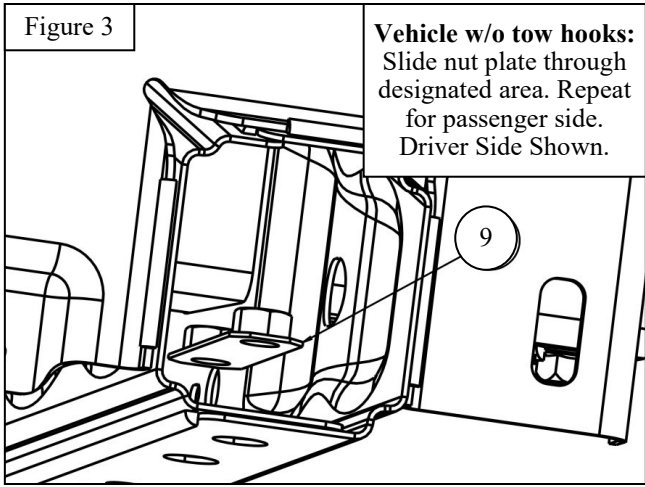
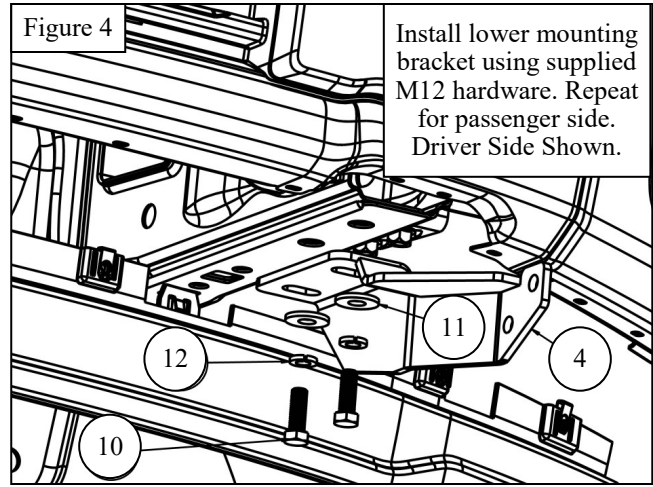
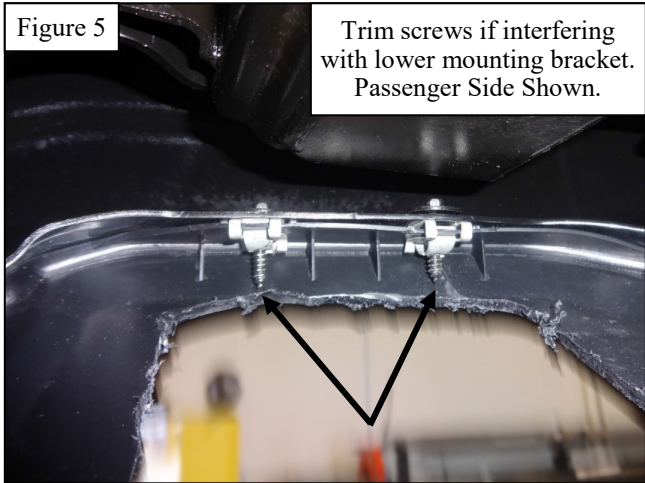

Figure 3
Figure 4
Figure 5
3. **For vehicles with factory tow hooks:** Remove tow hooks and loosely install the Lower Mounting Brackets (Items 4 & 5) to the factory nut plates using supplied M12 hardware as shown in **Figure 4**. *Note: Trimming of screws may be required if they interfere with lower mounting bracket. See **Figure 5** for reference.*
4. **For vehicles without tow hooks:** Slip the M12 Double Nut Plates (Item 9) into frame and line up with existing holes. See **Figure 3** for reference. Loosely install the Lower Mounting Brackets (Items 4 & 5) using the supplied M12 hardware as shown in **Figure 4**. *Note: Trimming of screws may be required if they interfere with lower mounting bracket. See **Figure 5** for reference.*